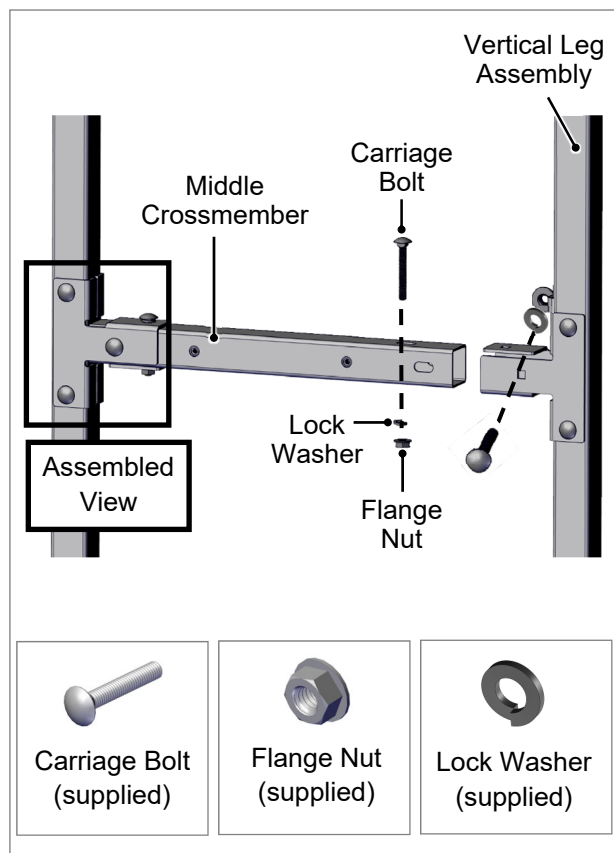

Fig 7. Attach Middle Crossmember to Vertical Leg Assemblies
5. Attach the Middle Crossmember to the Vertical Leg Assemblies with four (4) Carriage Bolts, four (4) Flange Nuts, and four (4) lock washers (Fig 7).